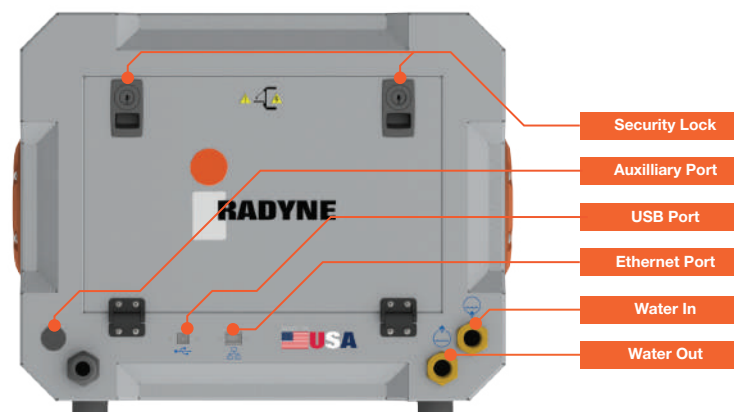

Figure 6-2: Rear Panel View
**Figure 6-2** shows the physical connection points/ports that are located on the rear equipment panel of the VersaPower®-Xtreme™ induction power supply.